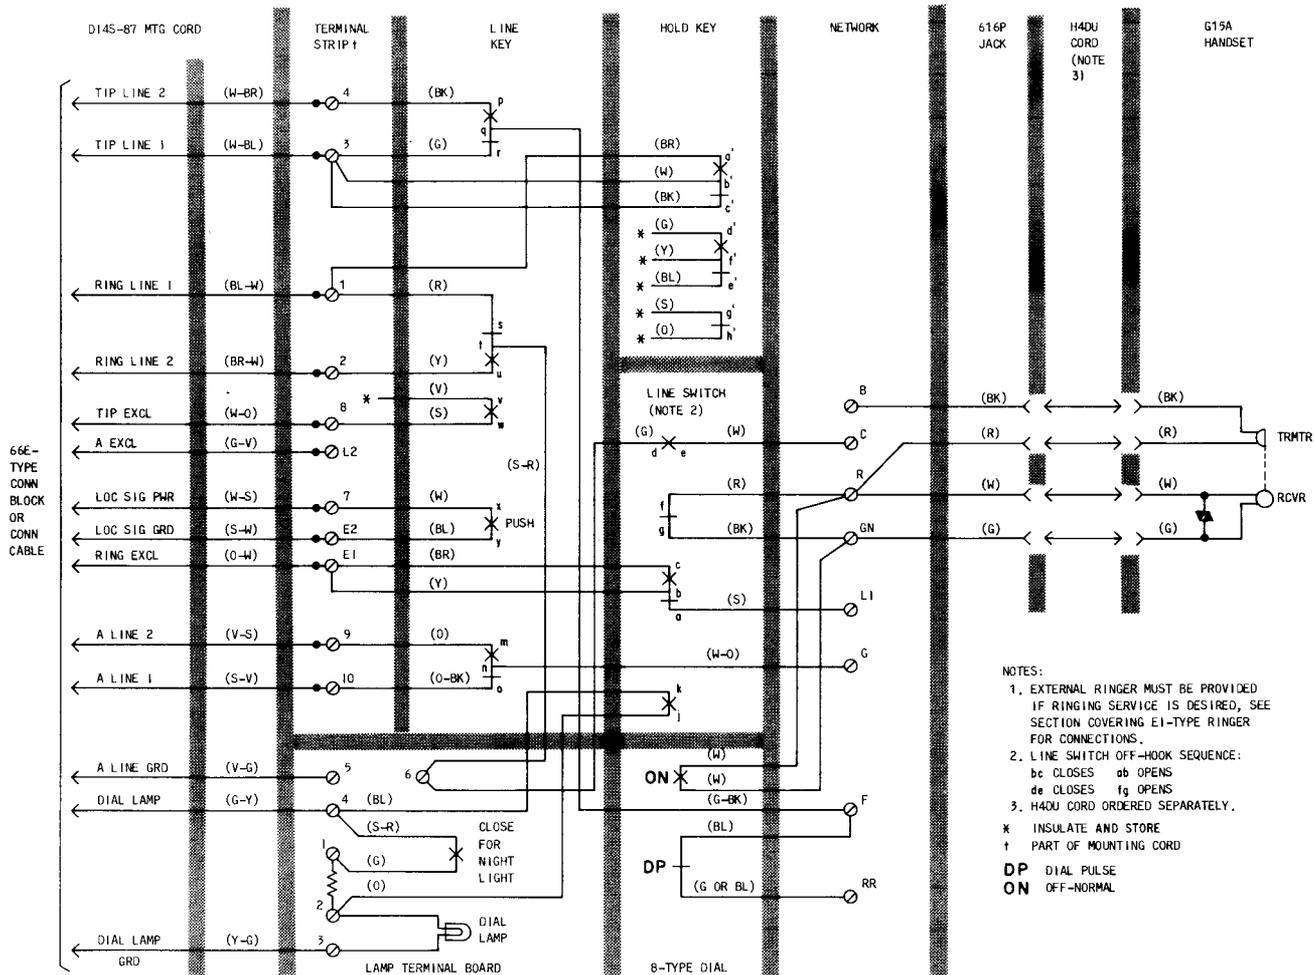

Fig. 2—712BM Telephone Set, Connections, Wired for 2-Line Pickup, Hold on Line 1, and Signaling
- 712BM Connections Fig. 2, 4, and 6.